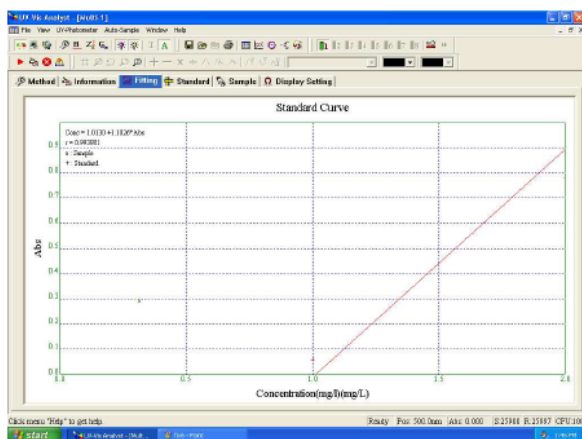
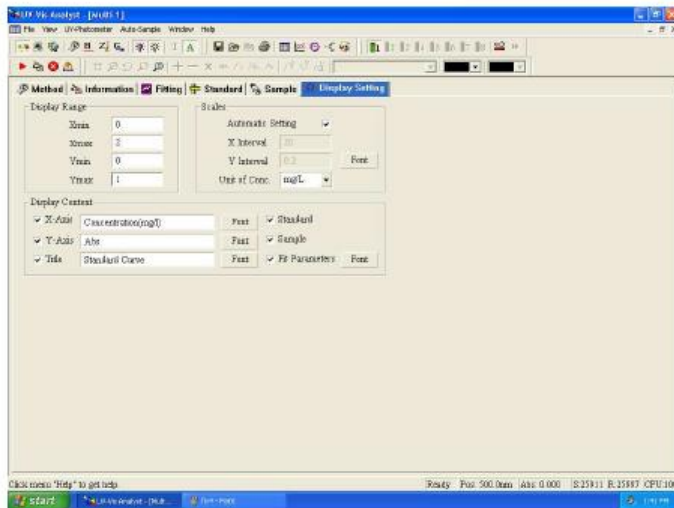

Fig. 4-7
Fig. 4-8
15. Click fitting tab to view the linear regression curve (Fig 4-7). Click display setting tab to set the display parameters and unit of concentration (Fig 4-8).